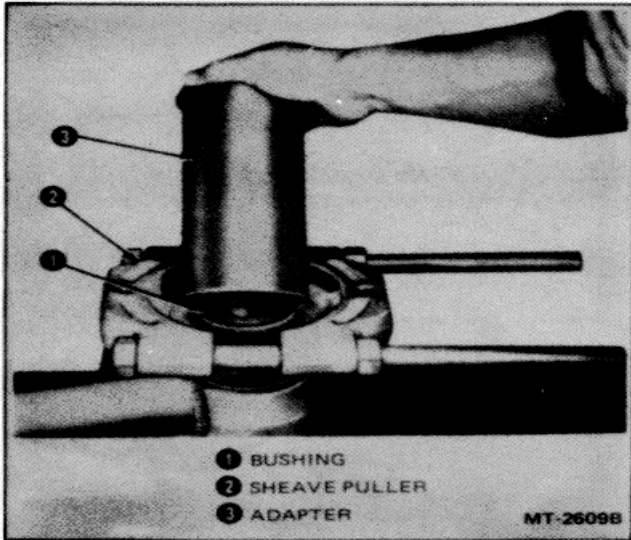

Figure 13 - Preparing to Press Bushing Into Torque Rod
5. Place adapter over end of bushing, resting on sheave puller. (See Figure 13) Press bushing into torque rod until bushing is centered in bushing bore.